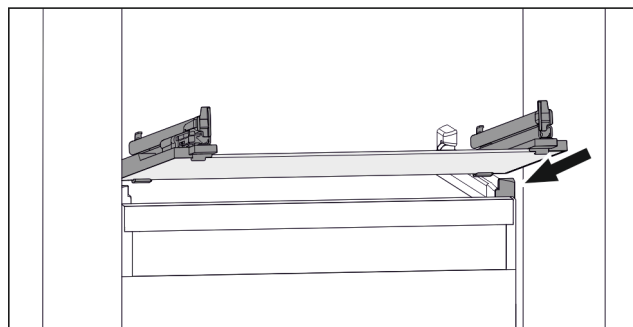

Fig. 154 Example illustration of glass shelf
- ▶ Position glass shelf at an angle behind the stoppers. (see Fig. 154)